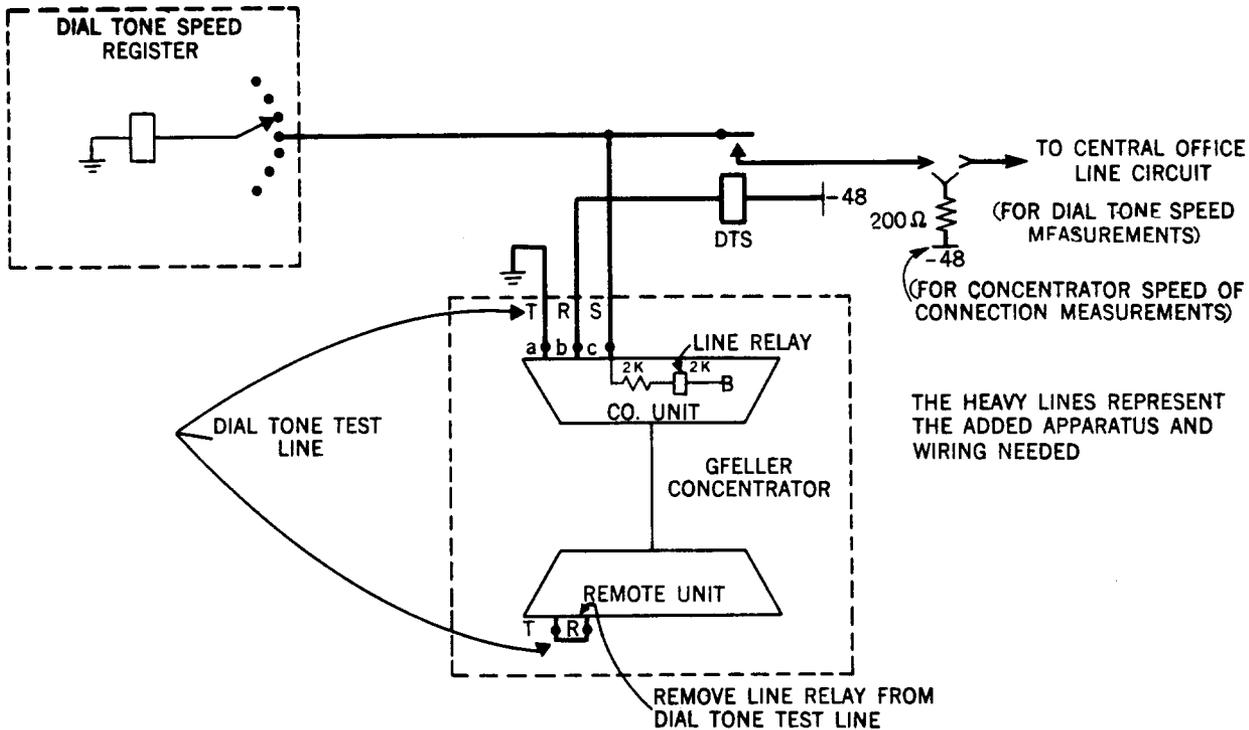

Fig. 5
2.14 The circuit shown in Fig. 5 can be used to connect the dial tone speed register circuit to the concentrator. This applique requires:
- (d) Provision of an auxiliary relay (designated DTS in Fig. 5). This relay may be the same type as that used as a line-relay in the particular office and using the same requirements, or a Gfeller type (such as those with the designation BSU, BSG, or SCH) may be used.